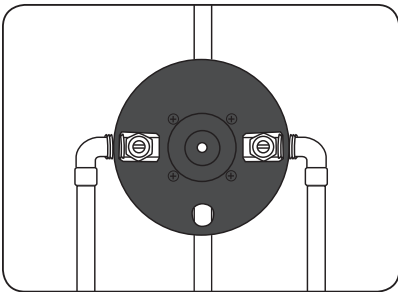

Figure 1
1. Rough valve body into wall, connecting piping to 1/2" female copper sockets or 1/2" male I.P. nipples (see Figure 1). Important: note “UP” and “DOWN” markings on back of valve.